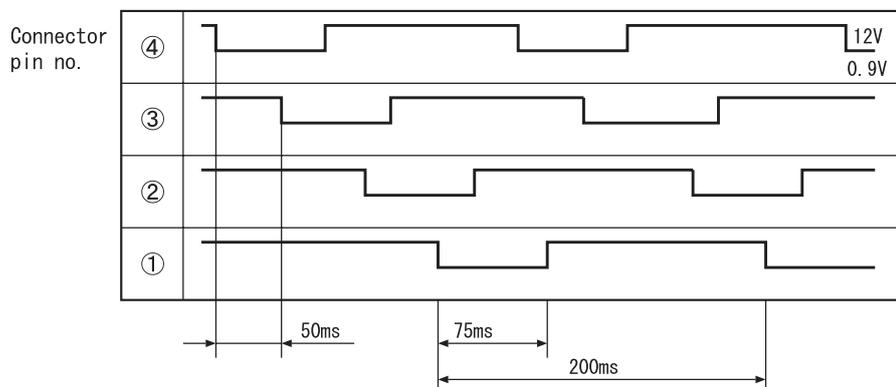

Fig. 6-2
- Relationship between power switching direction of phase and open/close direction is shown below. When power is supplied, voltages at pins ④ to ① of CN15 are about 0.9V and 12V when no power is supplied. When power is reset, initial operation is performed for 10 or 20 seconds. During initial operation, measure all voltages at pin ④ to ① of CN15 by using a multimeter. If there is any pin with voltage that has not changed from 0.9V or 12V, expansion valve or microcomputer is broken.
- Fig. 6-2 shows logic waveform when expansion valve is operating.